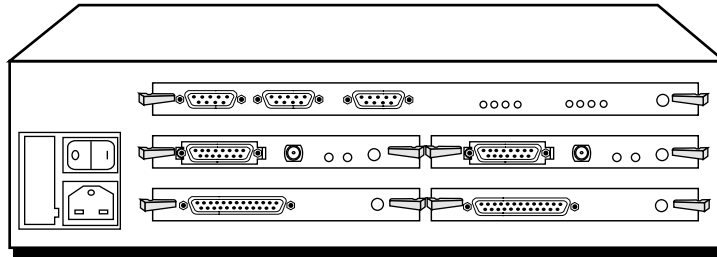

Figure 2-5 Ethernet Module Board Installed
- 4 Check that the connector/LED panel of the newly inserted module is flush with the NETBuilder II chassis, and is aligned with the connector/LED panel(s) of any other installed module(s) to verify that the board is seated correctly (see Figure 2-5).